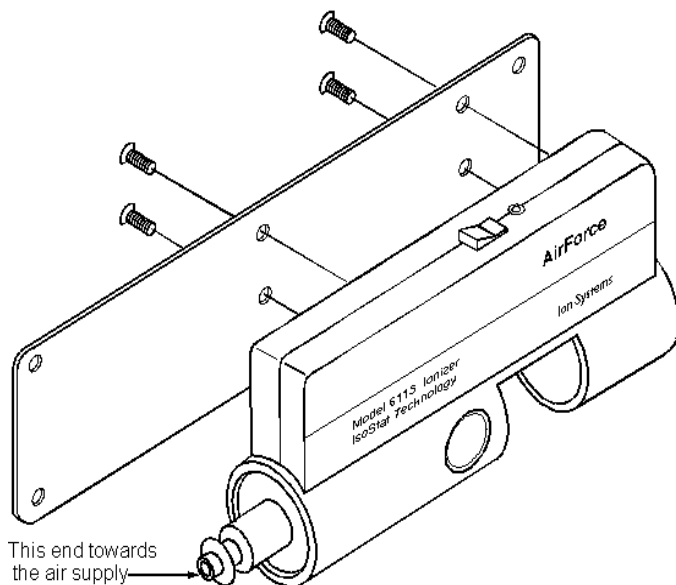

Figure 1. Permanent Mounting
1. Attach the supplied mounting plate to the threaded holes on the back of the console, using the supplied screws. See Figure 1.
See **Figure 1. Permanent Mounting.**